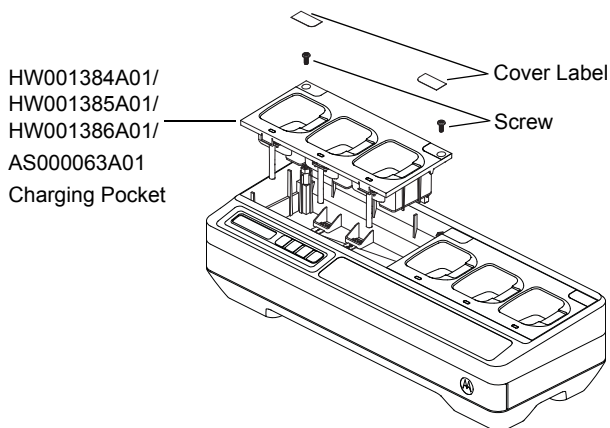
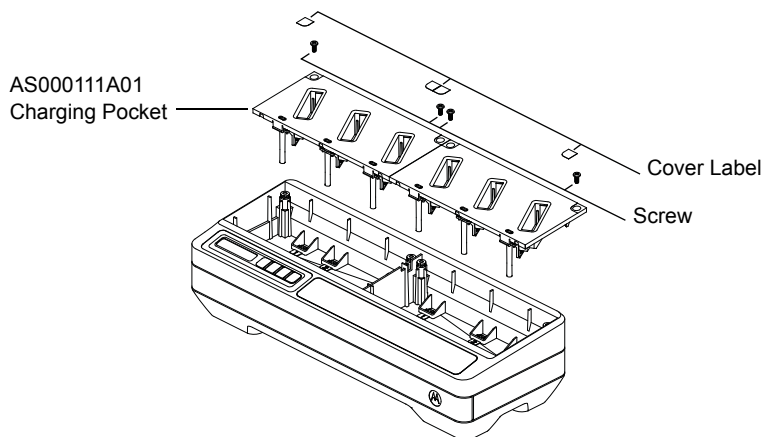

Figure 25: Installing and Removing HW001384A01/HW001385A01/
Figure 26: Installing and Removing AS000111A01 Charging Pocket
4. Remove the Pocket Harness by pulling straight up on the connector (Refer to Figure 25 and Figure 26).